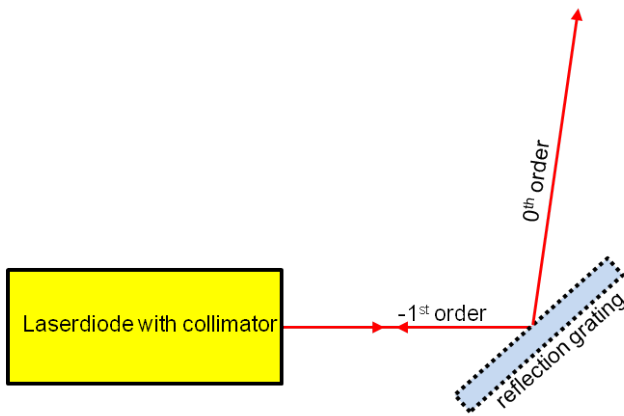

FIG. 1: Scheme of a laser in the Littrow configuration. The red lines/arrows indicate the paths/directions of the laser beams.
(2) *Achieve feedback in the Littrow configuration.* The collimated light from the diode is sent to a grating (blaze: 1200/mm). Adjust the grating to roughly realize the Littrow configuration (Fig. 1). Set the diode input current just below the threshold value determined in the previous exercise. Observe the 0th reflection order on a piece of paper. When the grating alignment is optimized, the 0th reflection order will “flash”. Optimize the alignment by repeating the previous steps and then retake the characteristic curve. Measure the geometry and determine the wavelength of the laser (with error bars!) from the grating equation $m\lambda = d(\sin\alpha + \sin\beta)$.